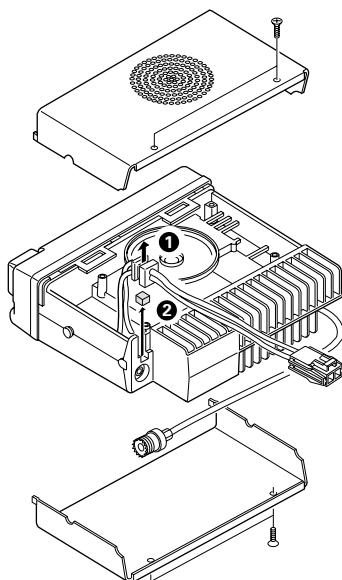

Fig. 1
1. Remove the upper and lower halves of the transceiver case, and lift the DC cord bushing ( ❶ ) from the chassis.
2. Remove the pad as shown in Figure 1 ( ❷ ).
3. Insert the KCT-19 cable ( ❸ ) into the chassis ( ❹ ).